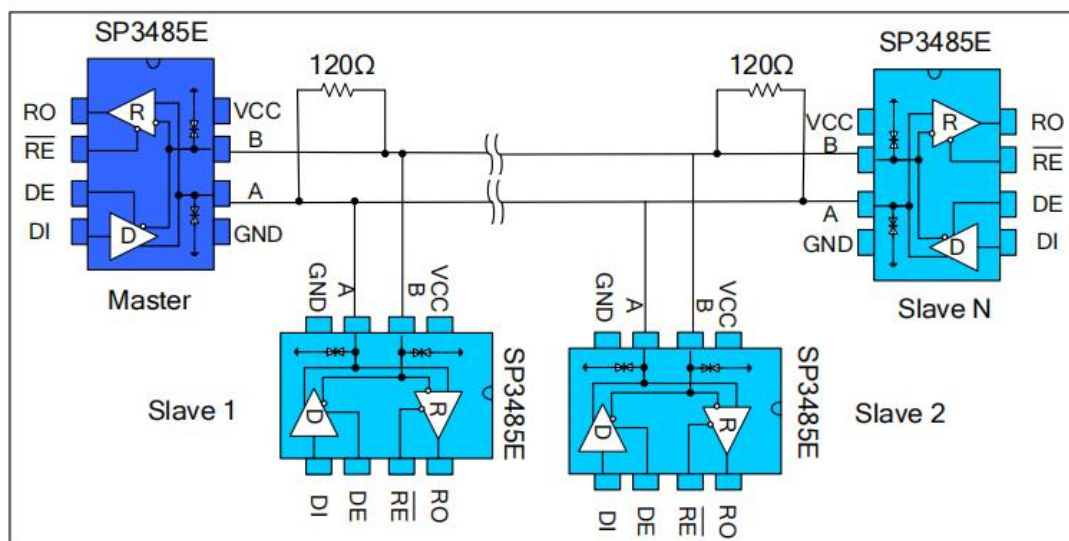

Figure 9 Bus type SP3485EN-L/TR half duplex communication network
4. 1Bus Networking : SP3485EN-L/TR transceiver is designed for bidirectional data communication on multi-point bus transmission line. Figure 9 shows a typical network application circuit. These devices can also be used as linear repeaters with cables longer than 4000 feet. In order to reduce reflection , terminal matching should be carried out at both ends of the transmission line with its characteristic impedance, and the length of branch lines outside the main line should be as short as possible